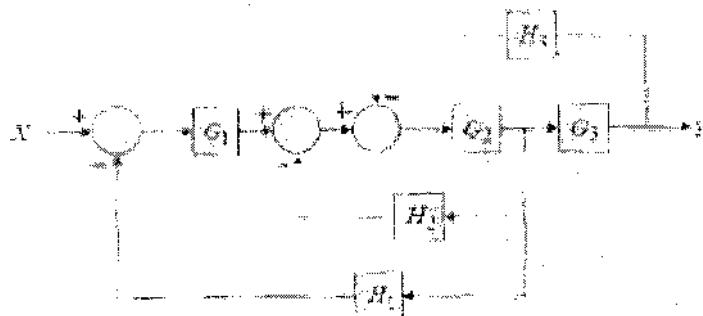

Figure Q.8 (a)
8. a) Simplify the block diagram given in Figure Q. 8 (a) and obtain the expression for Y/X . 8